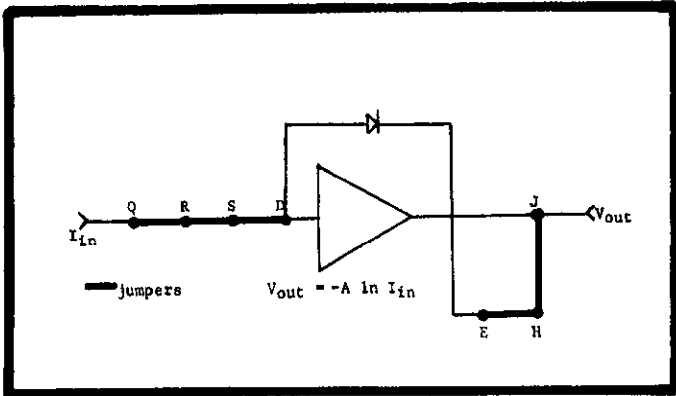

FIGURE 10. Logarithmic Current Amplifier. Diode shown for positive currents.
2-8. LOGARITHMIC CURRENT AMPLIFIER (Figure 10).
b. The circuit for the logarithmic current amplifier is shown in Figure 10. This circuit uses a single diode and is for positive currents. The output voltage is:
d. Silicon transistors are also useful as log elements and they have better response speed.* Using the basic circuit of Figure 10, positive currents can be amplified by using an NPN transistor in the feedback loop. Negative currents can be amplified by using a PNP transistor in the feedback loop. In both operations the base of the transistor can either be connected to the collector of the transistor or to ground. Connect the collector to the input and the emitter to the output.
e. Connections for the Model 300 as a logarithmic current amplifier (Figure 10):
3. Mount the logarithmic elements in the feedback circuit as needed to amplify positive or negative input currents. Figure 10 shows a diode mounted for positive currents.